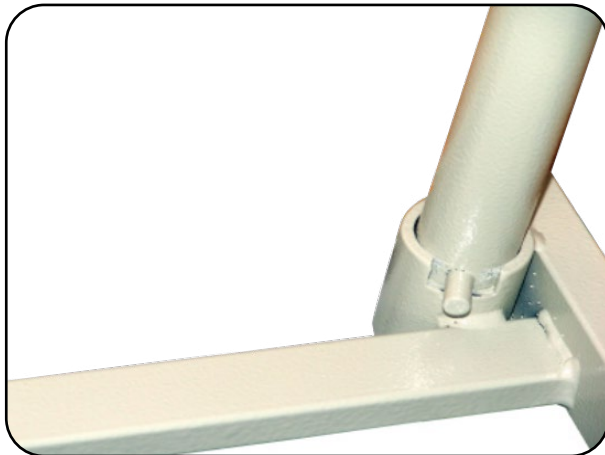

Fig. 6.3.01 - Uplifter mountings for uplifter (shown here: round tube) and transport lock
2. Insert the uplifter into one of the head end receptacles on either the left or right (Fig. 6.3.01). Ensure that the pin of the uplifter is completely inserted in the notching of the uplifter mounting.